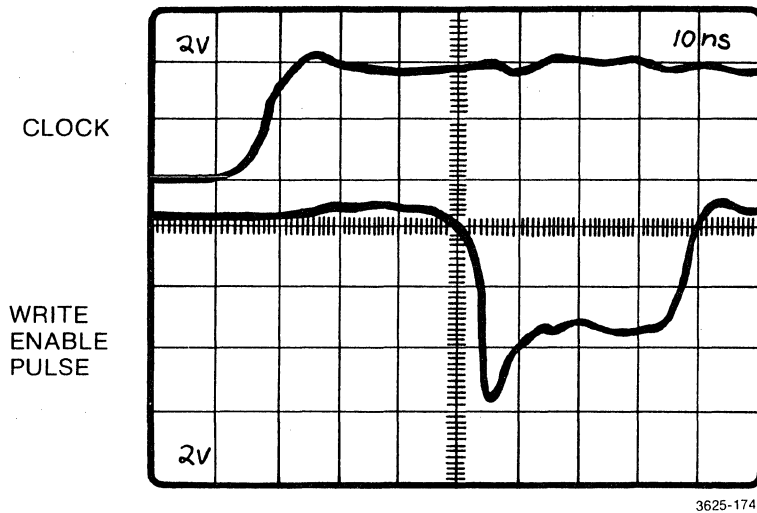

Figure 5-53. 91A32 write-enable timing.
7. Turn on the oscilloscope and press the START ACQUISITION button. Adjust the oscilloscope for a display like the one shown in Figure 5-53 (2 V/div for both channels, time base set to 10 ns/div).
10. Verify that the falling edge on channel 2 was not disturbed by the rising edge adjustment. The oscilloscope display should now look like Figure 5-53. If the time values shown on channel 2 of the oscilloscope are not accurate, perform steps 8 and 9 again until they are correct.
11. Move the probe for channel 1 to TP121. Move the probe for channel 2 to TP162. The ground leads may be left where they were. Again, the oscilloscope display should look like the one shown in Figure 5-53.
14. Verify that the falling edge in channel 2 was not disturbed by the rising edge adjustment. The oscilloscope display should look exactly like Figure 5-53. If the time values shown in channel 2 are not accurate, perform steps 12 and 13 again until they are correct.